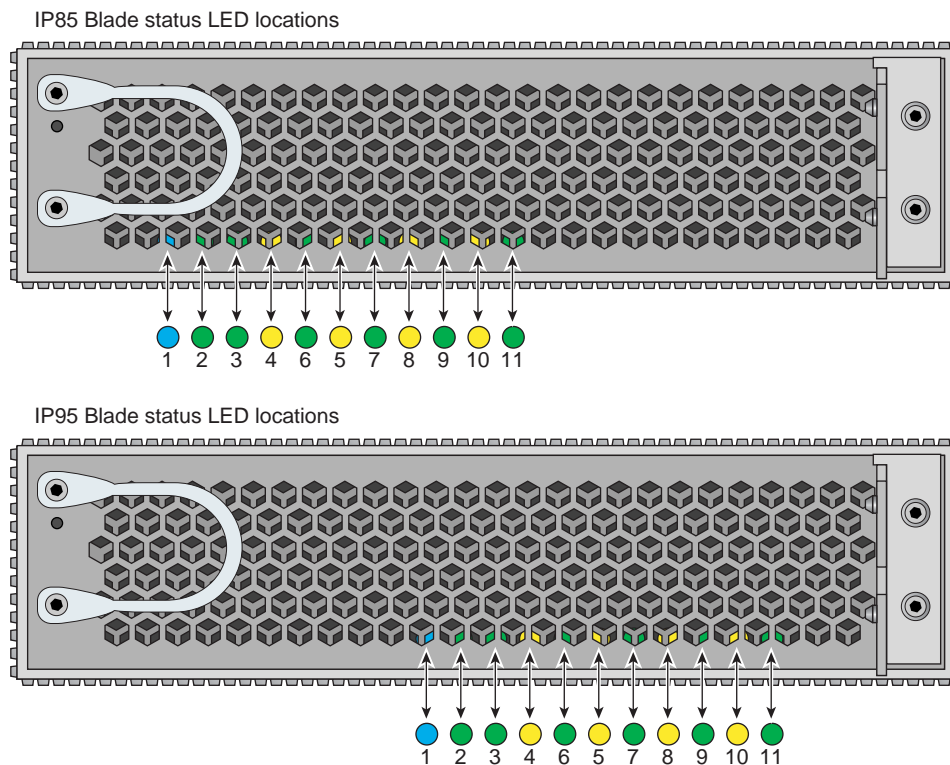

Figure 3-3 IP85 and IP95 Compute Blade Physical Difference (Front View)
- The IP85 and IP95 board status LEDs (viewed from the front) on each type are located in different positions. The IP85 has the bank of eleven LEDs on the left side while the IP95 blade has them on the right side, see Figure 3-3 on page 26 for an illustrated example.